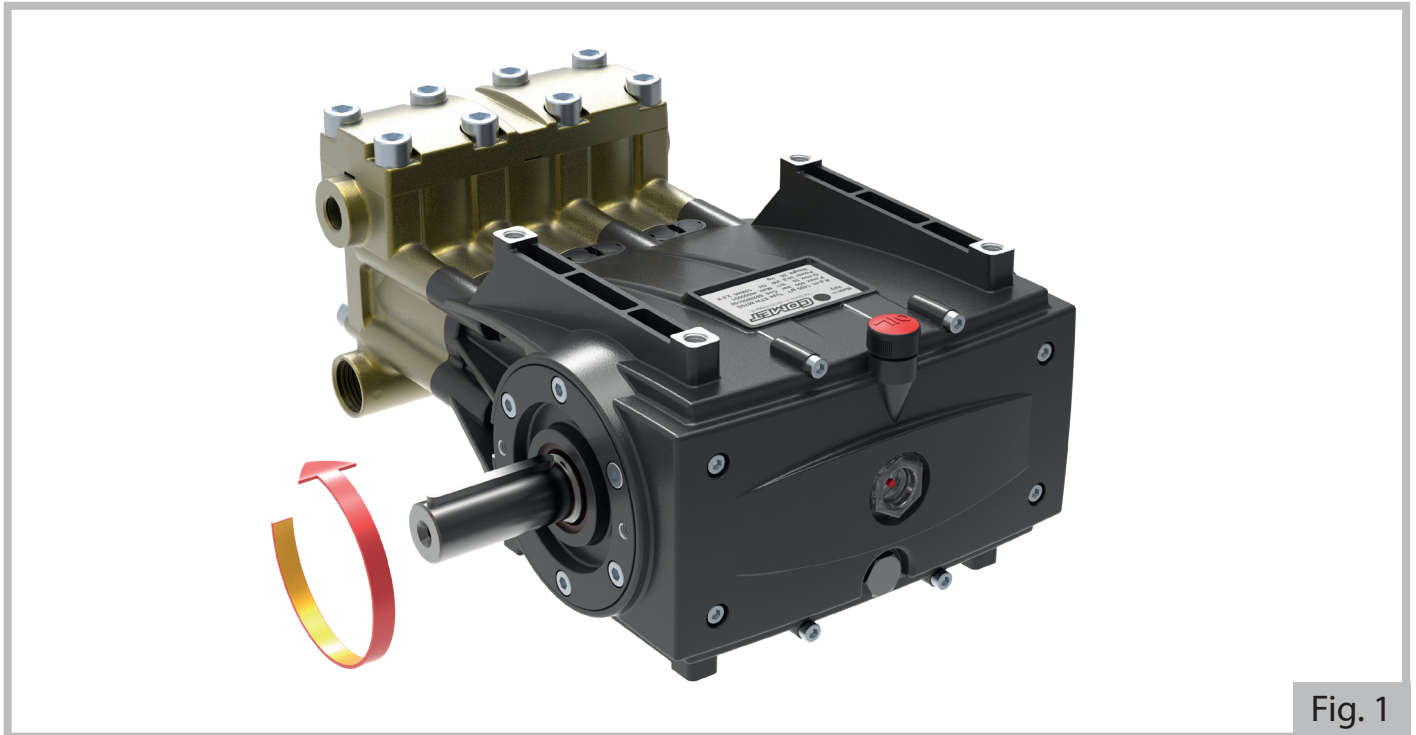

Fig. 1
- Keep to the exact direction of rotation as indicated in the illustration (Fig. 1):